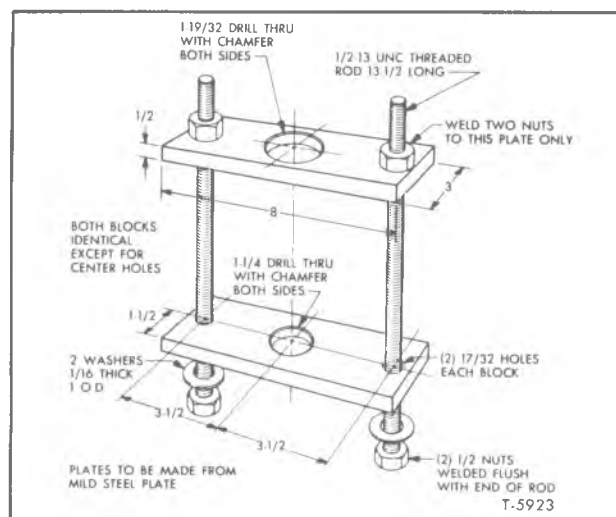

Figure 46—Power Spring Compressing Fixture
NOTE: Refer to figure 46 for illustration of fixture. This fixture is necessary to hold the power spring in compression for disassembly. This fixture is special tool (J-23527).
11. Assemble cap assembly, spring, and piston Compress assembly in fixture (fig. 46).